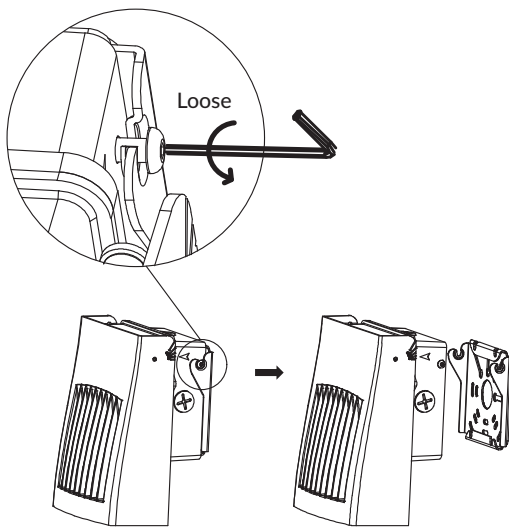

Figure 1
For 0-10V Dimming, follow the wiring direction as in Figure 1.
- Use a 3/32 hexagon wrench to detach the mounting plate from the fixture by unscrewing halfway the 2 side retaining screws, until the mounting plate is loose. (Figure 1)